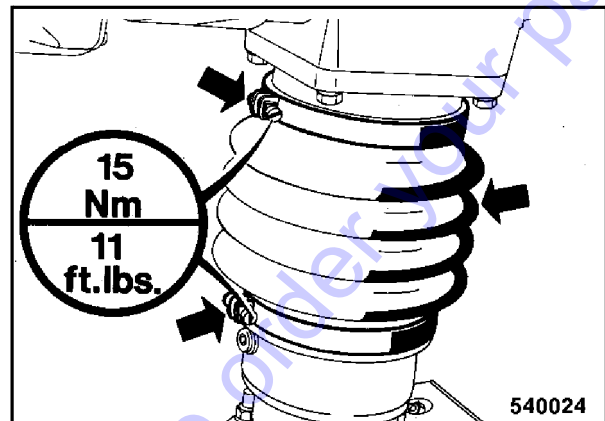

Fig. 2
- Check the hose clamps for tight fit (Fig. 2).